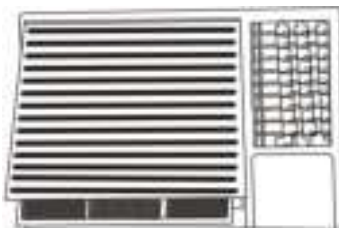

Figure 12
8. Reinstall the air filter. (Figure. 12)